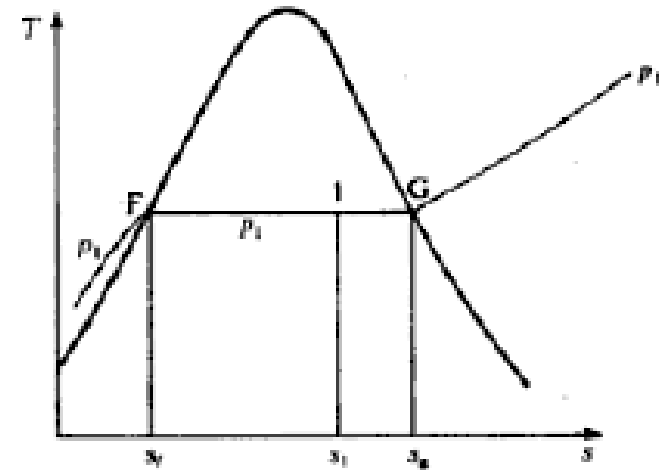

Fig. 4.8: Dryness fraction from areas on a T-s diagram
- It can be seen from equation (4.12) that the dryness fraction is proportional to the distance of the state point from the liquid line on a T-s diagram. For example, for state 1 on Fig. 4.8 the dryness fraction
- The area under the line FG on Fig. 4.8 represents the specific enthalpy of vaporization  $h_{fg}$ . The area under line F1 is given by  $x_1 h_{fg}$ .